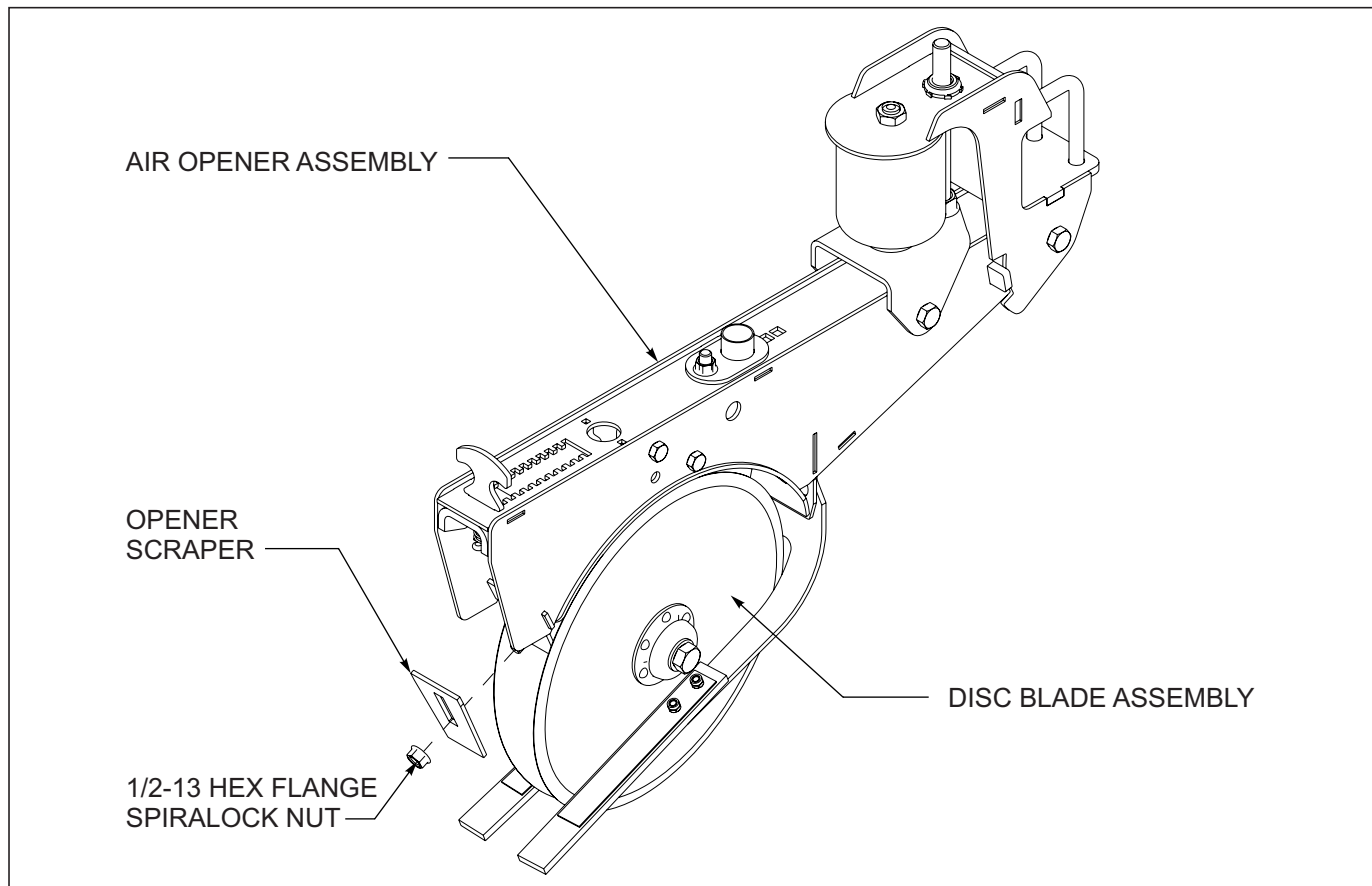

Figure 4-28: Opener Scraper Adjustment
2. To adjust the scraper blade, loosen the 1/2-13 hex flange spirallock nut holding the blade, and slide the blade up or down to achieve the desired clearance (**See Figure 4-28.**) Re-tighten the 1/2-13 hex flange spirallock nut. Carefully rotate the opener blades to make sure the blades will turn freely and not drag on the scraper.